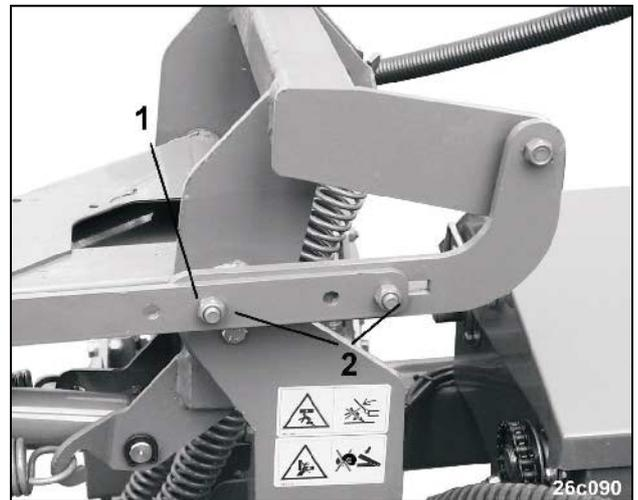

Fig. 104
- Slacken the bolts (Fig. 104/2) and set the actuating bracket (Fig. 104/1) in such a way that the marker disc penetrates for approx. 50 mm into the soil.
- Firmly tighten (Fig. 104/2) the bolts.